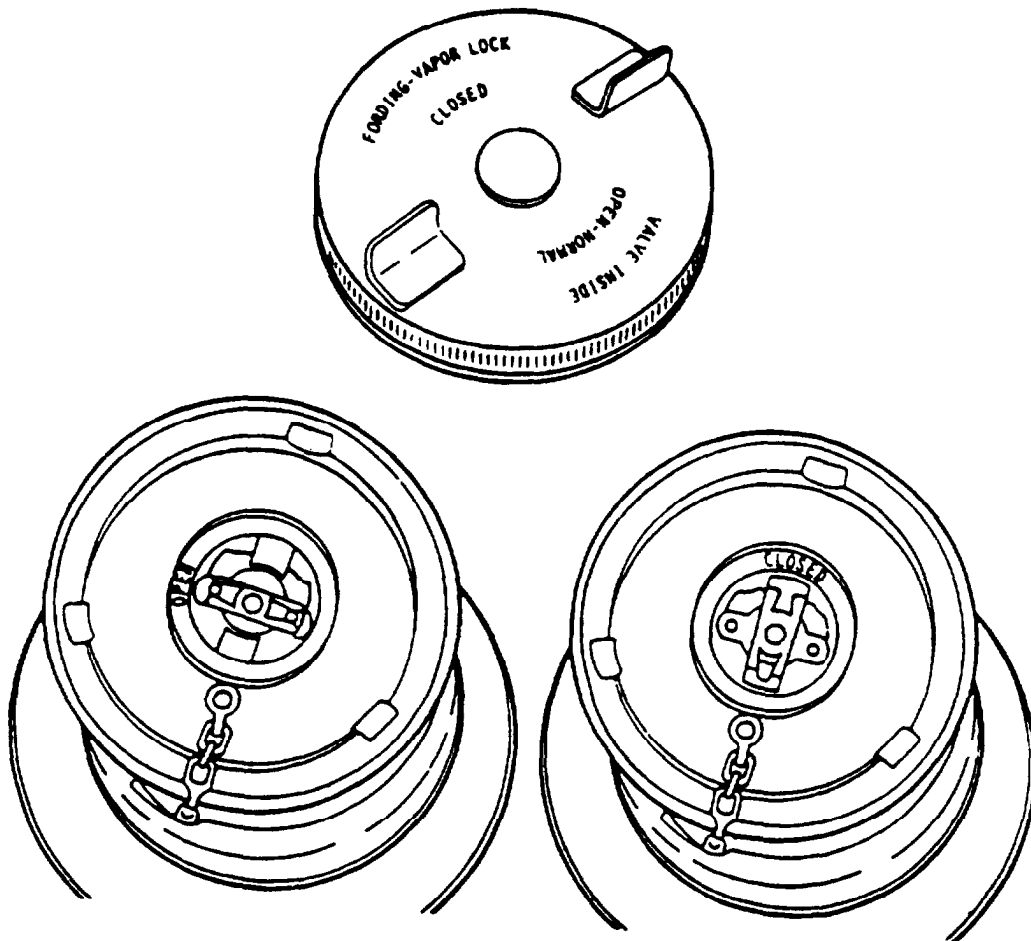

Figure 2-11. Fuel Tank Filler Cap and Vent Valve Selector.
- a. Open cold start reservoir cover (1, figure 2-11) and force servicing can (2) into nipple (3) on reservoir (4) so fluid flows from can into reservoir.
- (4) Remove fuel tank filler cap from tank and turn cap over,
- (5) Rotate vent valve selector to CLOSED position as shown in Figure 2-11,
- (6) Install cap and secure.
- (1) Remove fuel tank filler cap and turn cap over.
- (2) Rotate vent valve selector to OPEN position as shown in Figure 2-11.
- (3) Install cap and secure.